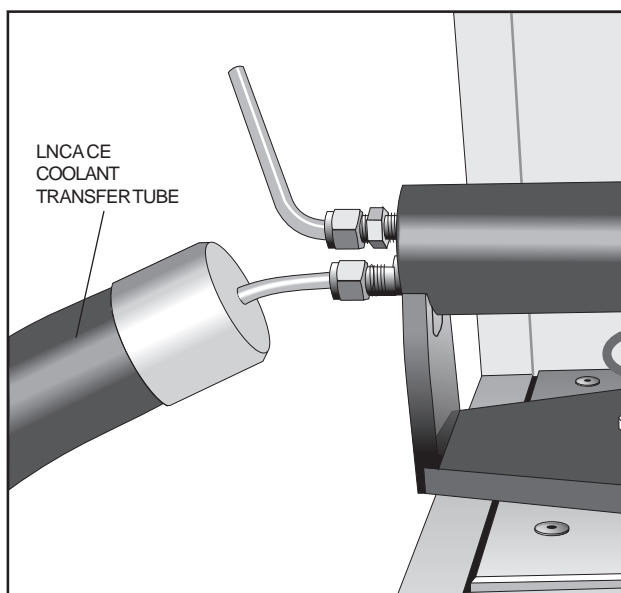

Figure 2.7
1. Connect the LNCA CE coolant transfer tube from the LNCA CE feed connection marked “COOLANT” to the stainless steel union on the heat exchanger end plate (Figure 2.7).